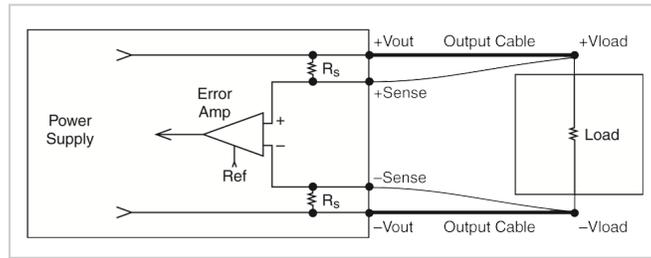

Fig. 2: Simplified Schematic of Remote Sense Circuit with External Output & Sense Wires
4. Refer to **Fig. 2** below for a simplified schematic of a power supply's remote sense circuits. It is important to observe the correct polarities, i.e., the +Sense wire should connect at the load near the +Vload connection and the -Sense wire should connect at the load near to the - Vload connection. If by mistake the remote sense wires are crossed-connected (+Sense to -Vload and - Sense to +Vload) current will flow in the Sense lines and burn out the internal R_{sense} resistors, causing a malfunction of the supply. Typically, these internal R_{sense} resistors are around 10 to 100 Ohms with a maximum rating of 0.5W.